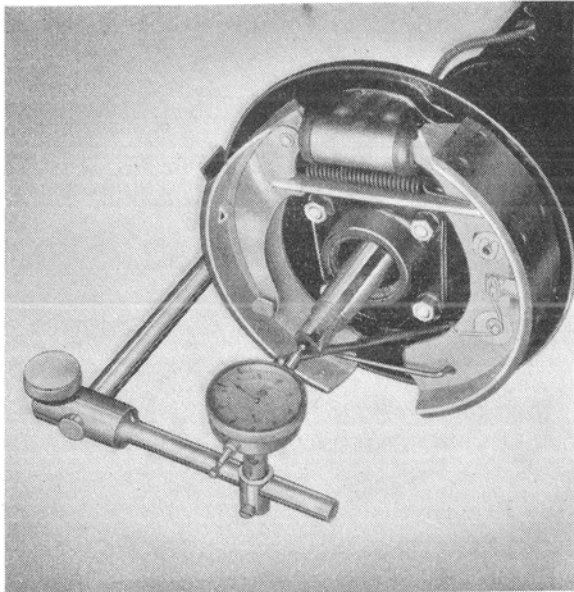

Fig. 23. Measuring axle shaft end play.
5. On late production models, the shims on the right-hand side have been replaced by a 1,5 mm (0.059") thick washer. Adjustment must, therefore, be carried out on the left-hand side. Fit a dial indicator on this side using attachments SVO 4054 and SVO 4149—3 which are fitted on the brake backing plate. Place the point of the indicator on the axle shaft end and zero the indicator. See fig. 23.
6. Pull the shaft out and in several times and read off the indicator. The reading should be between 0,02 mm (0.0008") and 0,12 mm (0.0047"). If the reading obtained is higher or lower than these figures, shims are used (49). These are available in thicknesses of 1,0 mm, 0,35 mm and 0,1 mm.
7. When the axle shaft end play has been adjusted, the brake line and the handbrake cable are fitted on both sides. The hub (6) with drum is fitted on each side and the wheels are fitted. The brakes should be air-vented and adjusted according to the directions given in Part 7.